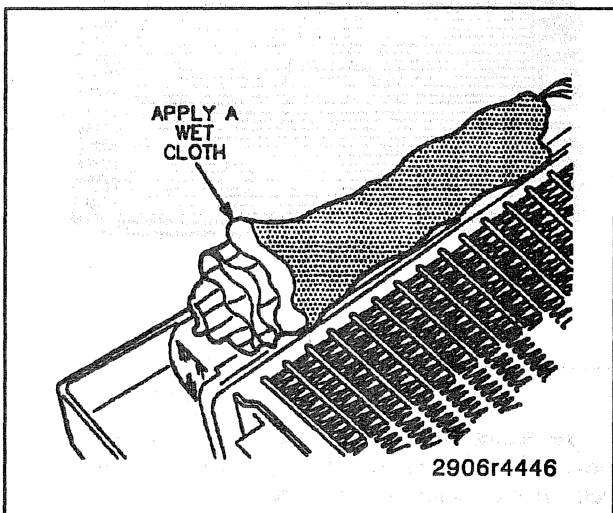
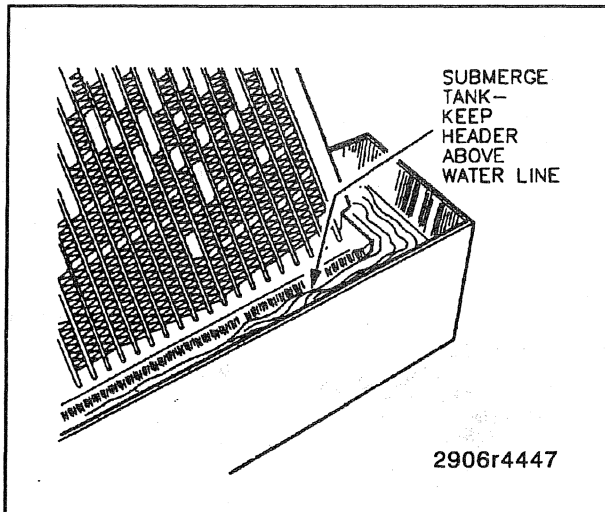

Figure 16—Using a Wet Cloth on a Side Tank
Figure 17—Submerging the Side Tank
If the header or a tube near the header requires a repair, the side tank does not have to be removed. A wet cloth can be placed against the side tank where the repair has to be made (figure 16). The side tank can also be submerged in a tank of water up to the header (figure 17).
2. Apply a wet cloth if you are working near the plastic tanks or the joints between the core tubes and header (figure 16), or submerge the tank in water (figure 17).